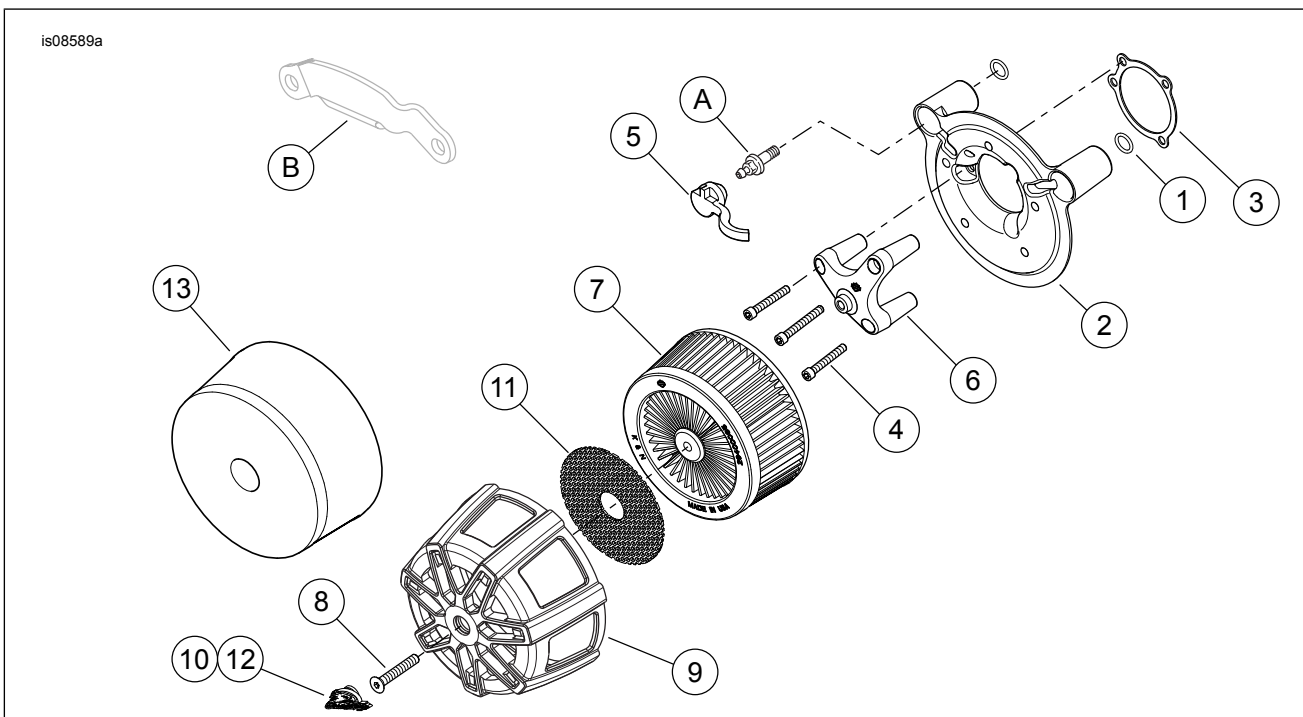

Figure 1. Service Parts, Screamin' Eagle Performance Air Cleaner Kit
See Figure 1 and Table 1.
3. See Figure 1. Remove and discard induction module bracket (B).
1. See Figure 1. Install two O-rings (1) from kit in grooves around breather screw holes on induction module side of backplate assembly (2).
2. Align flat edge of gasket (3) with the molded tab. Install gasket on induction module side of backplate
3. Insert breather screws (A) through the backplate.
6. Thread air cleaner mounting screws (4) through mounting bracket (6) and into backplate (2) until screw threads are captured in induction module. Leave fasteners loose.
7. Alternately tighten two breather screws (A) to 13.6–16.3 N·m (120–144 in-lbs).
8. Tighten three air cleaner screws (4) to 6.2–6.8 N·m (55–60 in-lbs).
9. Press breather plugs (5) into breather screw cavities, aligning tubes with recesses in backplate.
1. See Figure 1. Install the air cleaner filter element (7) and cover (9). Before tightening the center screw, align the cover using the medallion for best appearance. Tighten center screw to 4.1–6.8 N·m (36–60 **in-lbs**).